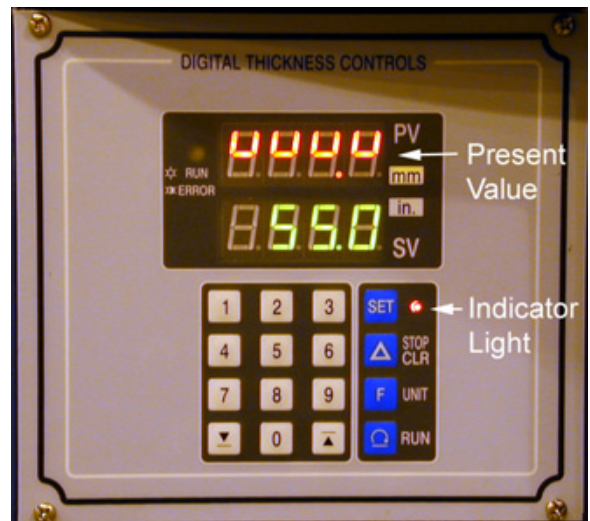

Figure 13
2. Press the SET button once, and two changes will occur. First the present value will change to “uuu”. Second the SET button *indicator light* will illuminate, see **Figure 13**.